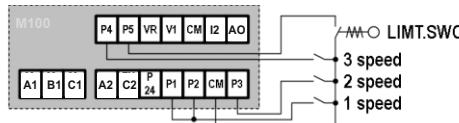

Figure 1
- Wire the I/O terminal of the iCS inverter according to the Figure 1